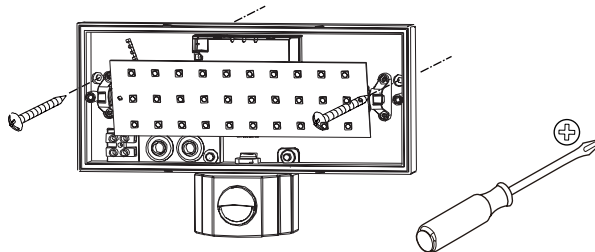

**Fig.2**
- Step2 Drill holes on the walls where there is pencil mark with an electric drill and get the plastic expansion inside the hole.(as Fig.2)